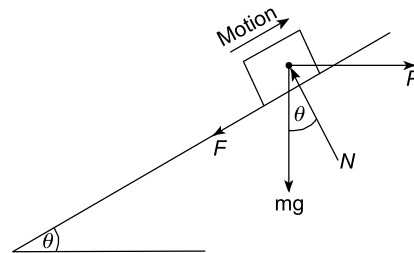

Figure 17.8
This motion, together with the primary forces, is shown in Figure 17.8.
Problem 9. If the mass of Problem 7 were subjected to a horizontal force P , as shown in Figure 17.8, determine the value of P that will just cause motion up the plane.
9. Determine P for Problem 5, if it were acting in the direction shown in Figure 17.8. [$P = 438.6 \text{ N}$]